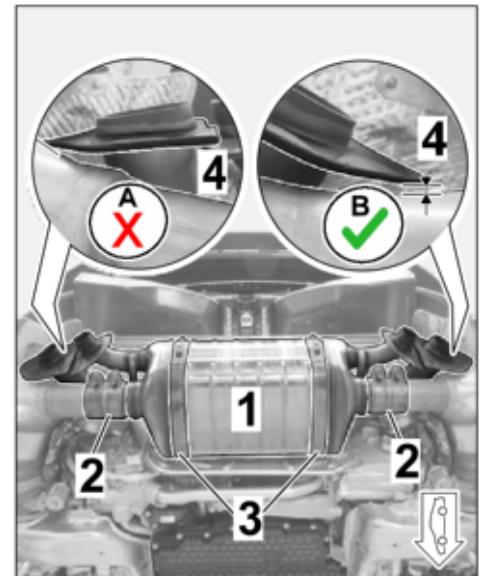

Figure 5
- 2.4.5 Position new muffler for sports exhaust system on the muffler holder and pre-fit hand-tight with new restraining straps (2 pc(s)) ($\Rightarrow$ Figure 5).
- 2.4.6 Check whether the protective plate is touching the catalytic converter ($\Rightarrow$ Figure 5 -Magnifiers-).
- If YES ($\Rightarrow$ Figure 5 -A-): Correct the position of the muffler or bend the cover away if necessary so that there is a gap of at least 3–5 mm ($\Rightarrow$ Figure 5 -B-) between the plate and the catalytic converter.
- If NO ($\Rightarrow$ Figure 5 -B-): Continue with the next step.
- 2.4.7 Move new clamping sleeve $\varnothing 70 \times 75$ (2 pc(s) $\Rightarrow$ Figure 5 -2-) as far as the markings on the exhaust pipe on the catalytic converter/muffler, align the opening horizontally and pre-fit hand-tight.